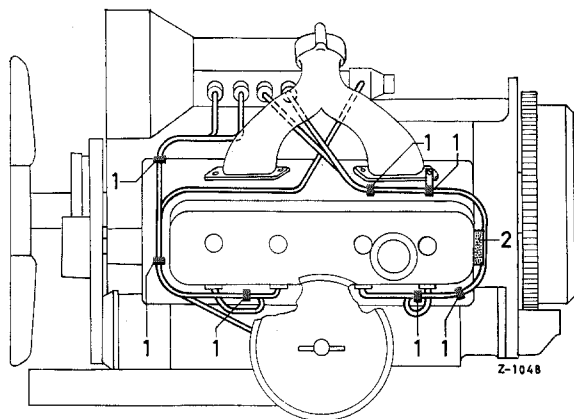

Figure 07-15/3
5. Install the pipe clips and fix them, together with the two holders, to the water pump and the exhaust manifold (see Figure 07-15/1 and 07-15/3).
6. To prevent a contact between the injection lines and the cylinder head a rubber pad (2) is inserted between the lines and the cylinder head (see Figure 07-15/3).